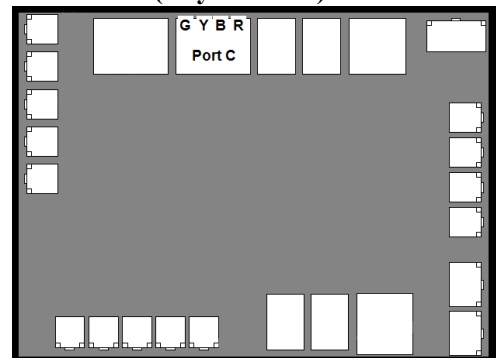

Figure 8
6. Use "Port C" on the control boards as indicated. Connecting the "G" to "G", the "Y" to "Y", and the "B" to "B" on each heat pump's port "C" connection point. ***The "R" connection points are not used.*** See Figure 8.